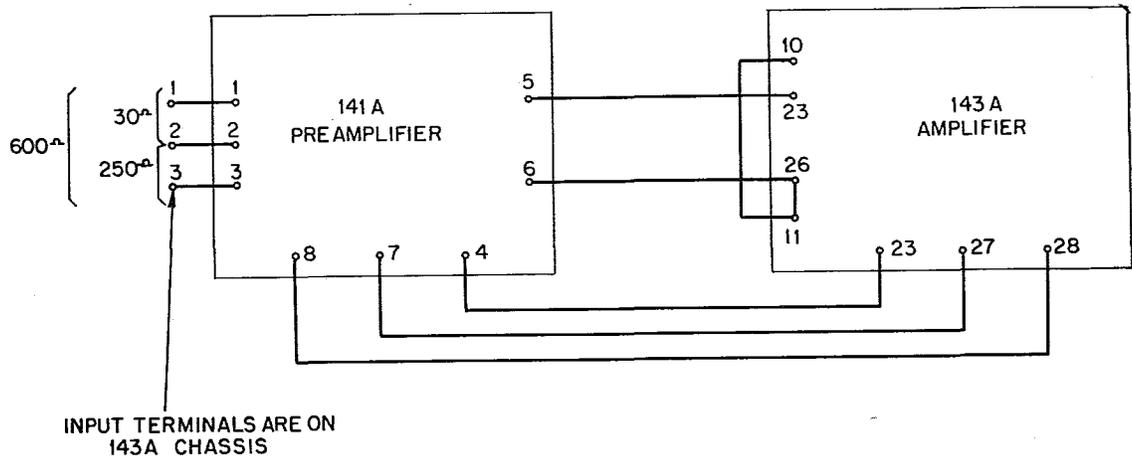

Fig. 3 - 143B - Block Diagram
2.01 The schematic circuit diagram of the 143A amplifier is shown in Fig. 2 on Page 13. Fig. 4, on Page 15, is a schematic circuit diagram of the input circuit arrangement of the 143B amplifier. Figs. 3 and 5 show the circuit arrangements of the 143B and 143C amplifiers, respectively, in block diagram form.
2.19 Terminals 1 through 8, inclusive, are not used on the 143A amplifier. They are used as input terminals on the B and C models as shown in Figs. 3, 4, and 5, and Table 1, and in modifications of the 143A amplifier as described in Section E47.188.2. The normal connections for the remaining terminals are as follows:
2.22 This is a high gain amplifier consisting of a 143A amplifier and a preamplifier coded 141A. Fig. 3 shows a block diagram of the 143B amplifier. In addition to the master gain control (P1) in the common amplifier there is an additional control which is part of the 141A preamplifier and is adjustable in three steps of 10 db each. Referring to Fig. 4, it will be seen that the input circuit, which comprises the 141A preamplifier, consists of a 3-stage low level amplifier. Its gain is adjustable from 40 to 70 db. The input transformer will accommodate microphones or other low level devices having a nominal source impedance of 30, 250 or 600 ohms. This transformer has a permalloy core and case. It is